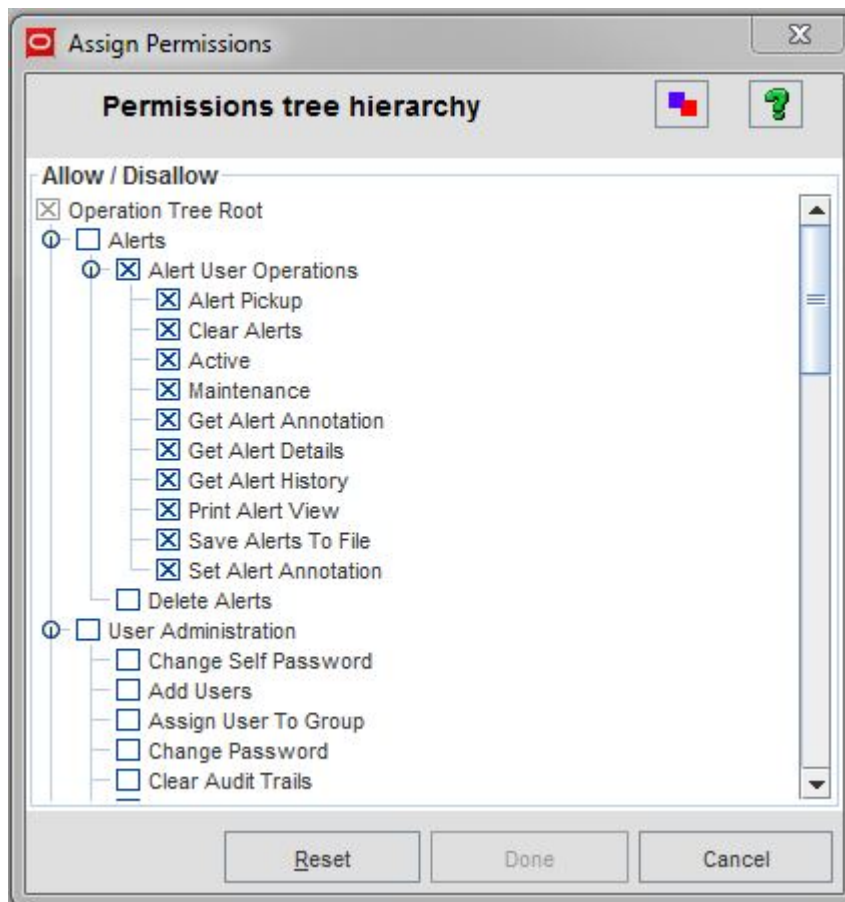

Figure 108: Assign Permissions Screen
1. Click the **Set Permissions** button to open the **Assign Permissions** screen shown in Figure 108: Assign Permissions Screen.